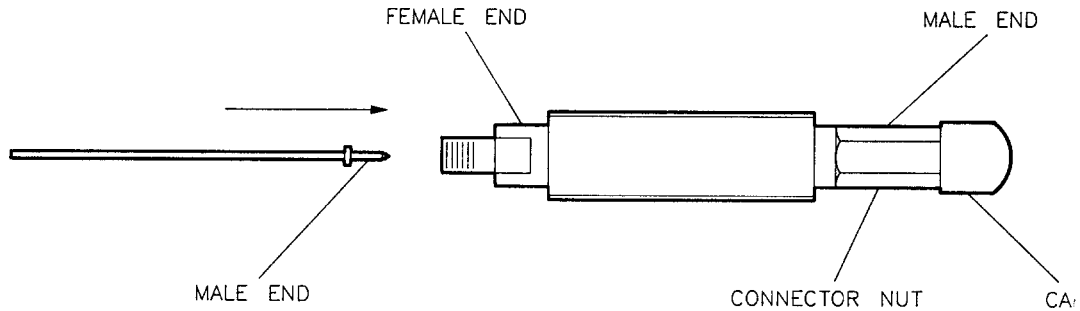

Figure 4-5. Airline Center Conductor Placement
3. Insert the male end of the center conductor all the way into the outer conductor; the female end of the center conductor is toward the end of the outer conductor without the connector nut see Figure 4-5.